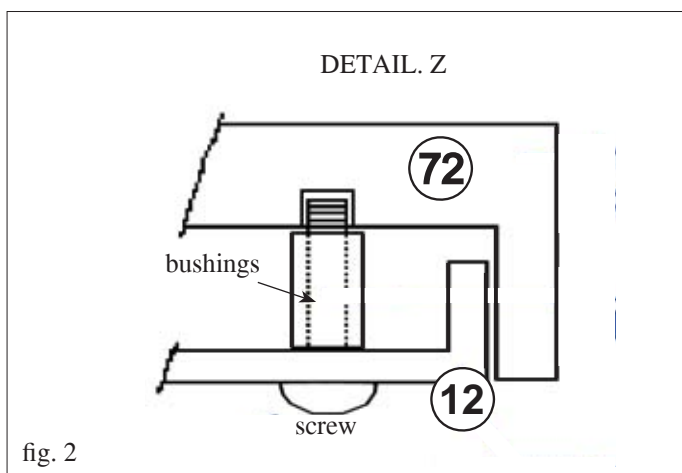

fig. 2
In order to correctly install the upper front panel (72), the supplied bushing must be positioned between it and the metallic front panel (12), as indicated in detail "Z" (fig. 2).